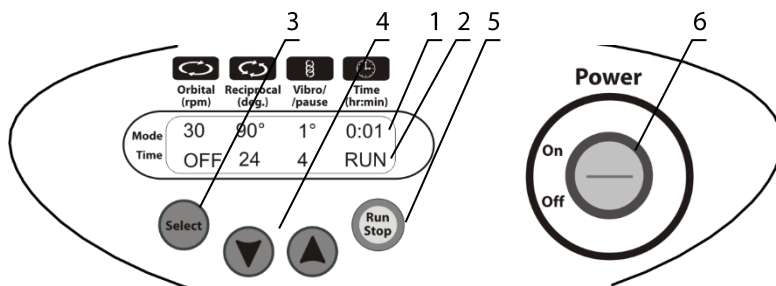

Figure 3. Control panel of PSU-20i
- 5.2.1. Connect the external power supply to the mains and switch on the **Power** switch (fig. 3/6).
- 5.2.4. Press the **Run Stop** key (fig. 3/5) to start the program. The platform motion starts, the indication RUN (fig. 3/2) and the changing time values are shown on the display.
- 5.2.6. If the operation time is not set and the timer indicator (fig. 3/1) shows OFF, pressing the **Run Stop** key causes the unit to operate continuously until the **Run Stop** key is pressed again.
- 6.3. Press the **Select** key (fig. 3/3) to choose the parameter to change. Each pressing of the **Select** key consecutively activates the parameters. The active parameter is flashing. Use the **▼** and **▲** keys (fig. 3/4) to set the necessary value. Pressing the key for more than 2 s increases the speed of value change.
- 6.7. The timer (fig. 3/1) is used to control the overall operation time. The timer can be set for the period from 1 min to 96 hours (timer increment 1 min)